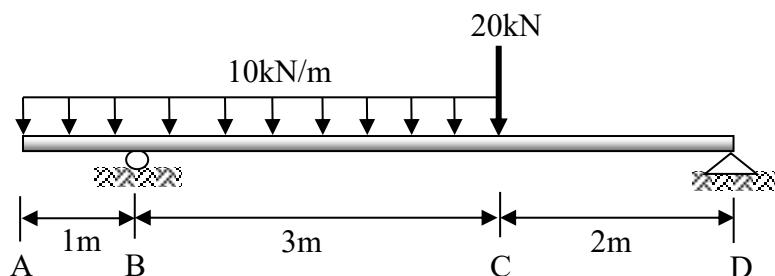

Figure B1(a)/ Rajah B1(a)
- CLO2 (a) An overhanging beam is loaded as shown in Figure B1(a). Identify the reaction force at each support B and D.